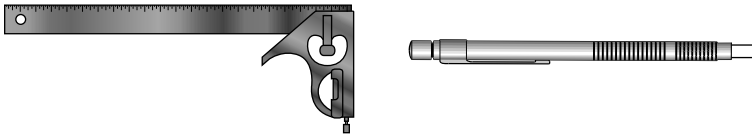

Figure 5-4:
- ✓ **An appropriate electrode holder:** You want an electrode holder that's fully insulated and has spring or twist-type jaws. The electrode holder in Figure 5-4 is a good example. If your electrode holder isn't fully insulated, you'll probably get shocked; if it doesn't have the right kind of jaws, they won't grip the electrode properly.
- ✓ **Ground clamps:** *Ground clamps* (see Figure 5-4) are designed to ground your welding table so that the piece you're working on conducts the electricity well, which ensures a good finished weld.